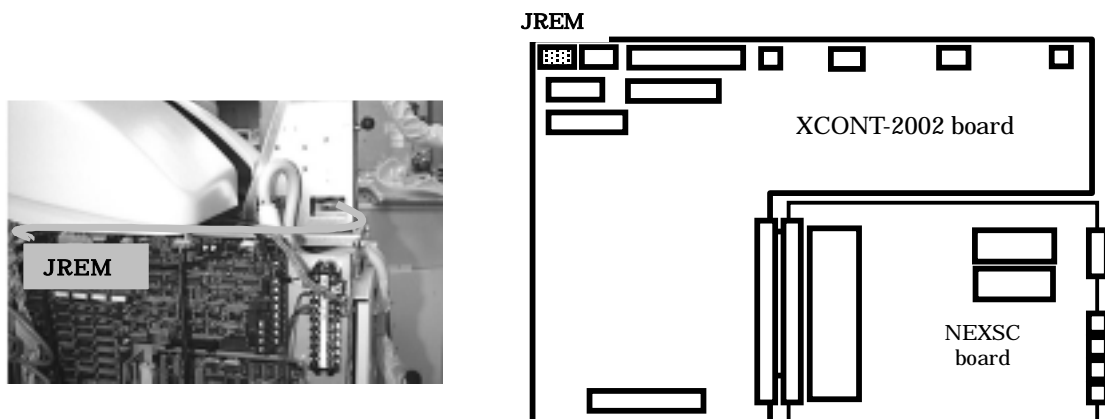

Fig. 5-4 Wiring to the XCONT-2000 board for the remote controller option
4. Connect and layout the cable extending from the photo-receptor for the remote controller to JREM of XCONT-2002 board as shown in Fig. 5-4